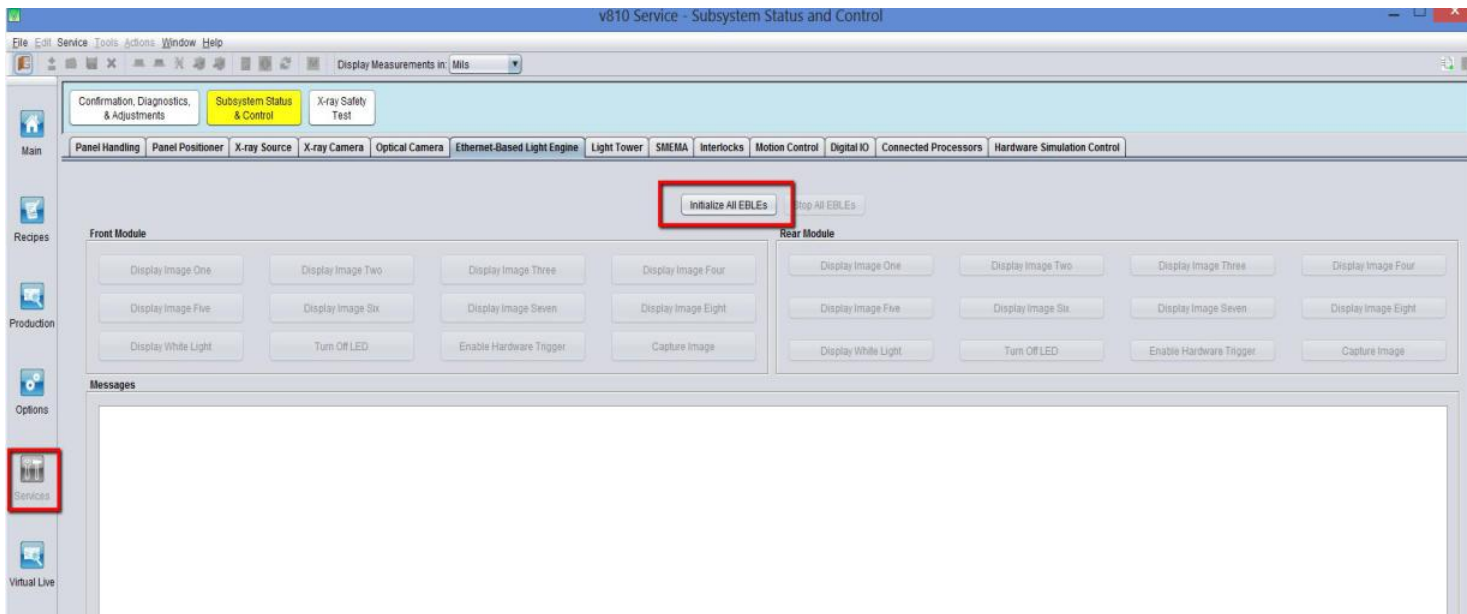

Figure 32 EBLE GUI
31. Open V810 Software & go to Services-> Subsystem Status& Control-> Ethernet-Based Light Engine and press Initialized All EBLEs as below Figure 32.